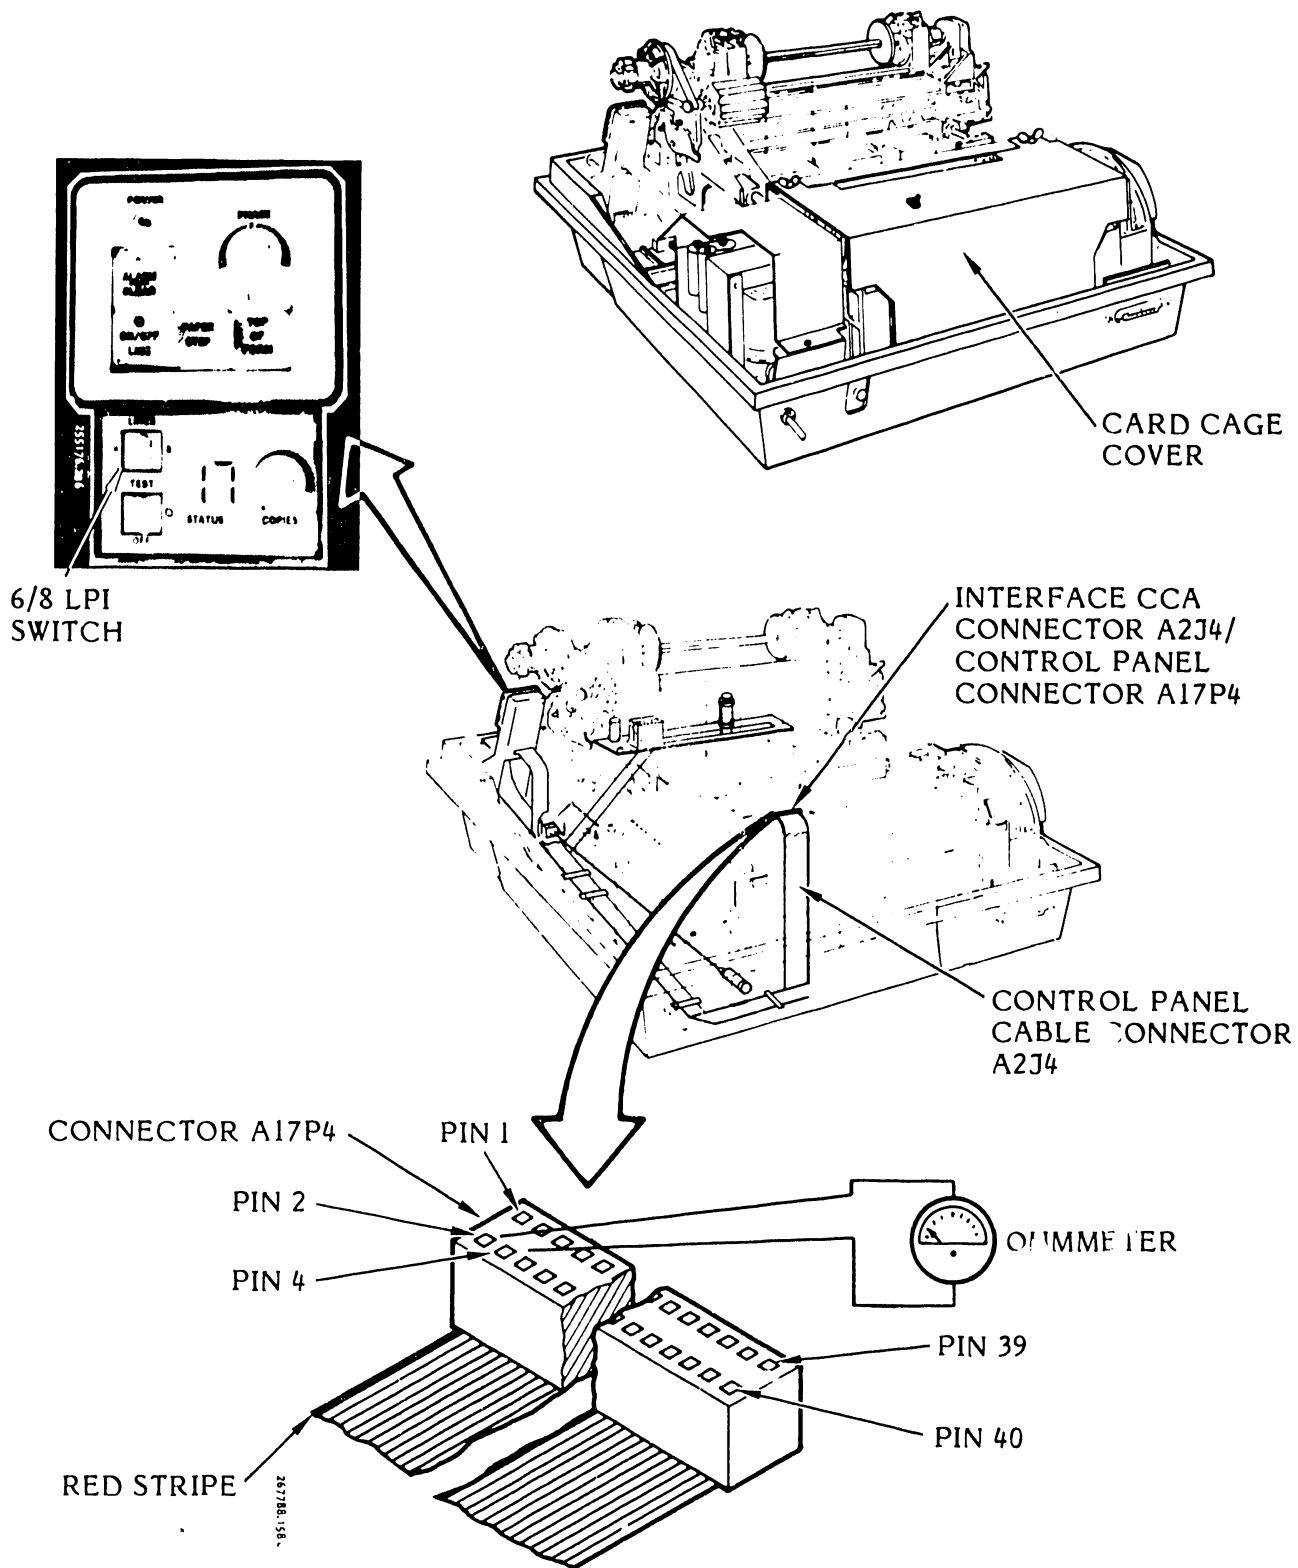

Figure 3-31. 6/8 LPI Switch Continuity Test
3.5.13 6/8 LPI Switch Continuity Test (Figure 3-31)
- f. Connect an ohmmeter (VOM or DVM), set at the Rx1 scale, between pins 2 and 4 of the cable plug A17P4 (see figure 3-31).